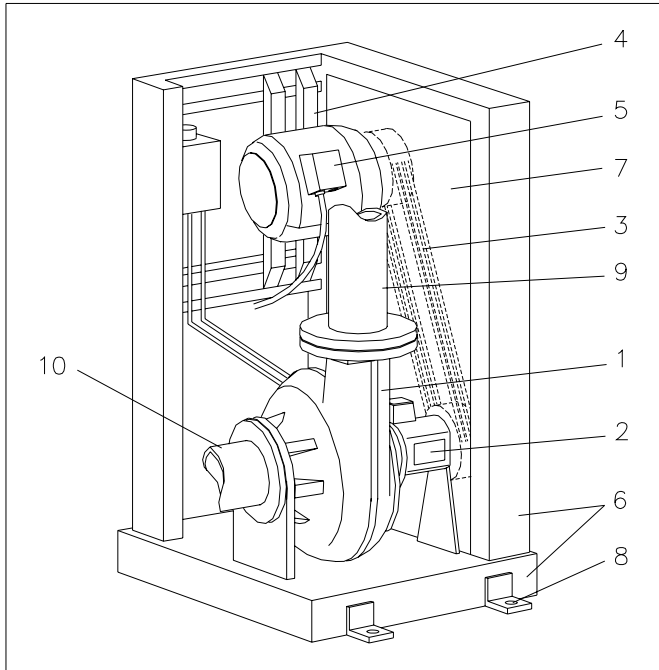

Fig. 7.5
See fig. 7.5.
- fixation of the base plate to the floor, see fig. 7.5 pos. 8.